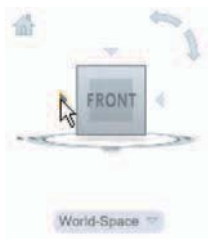

Fig. 16.10 Set screen to the ViewCube/Front view
- 2. Set the screen to the **ViewCube/Front** view (Fig. 16.10).